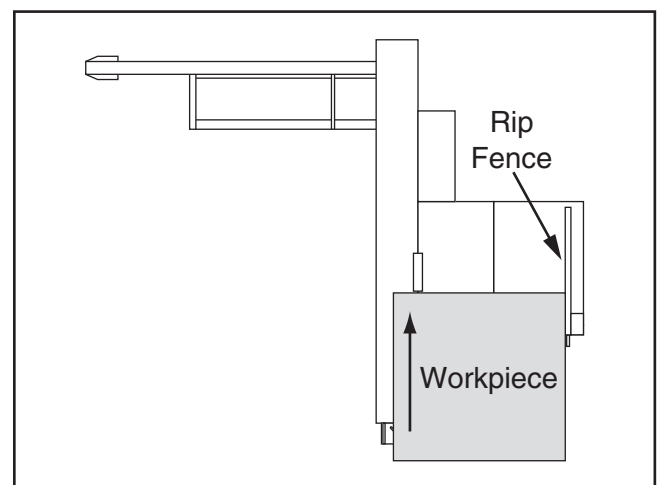

Figure 101. Traditional rip cut with rip fence.
This saw also has the capability of rip cutting smaller boards, using the machine as a traditional table saw (see **Figure 101**). Smaller, lighter boards are easier to slide across the stationary cast-iron table surface to the right of the saw blade.
9. Load workpiece onto table saw. The setup should look similar to **Figure 101** on **Page 51**.